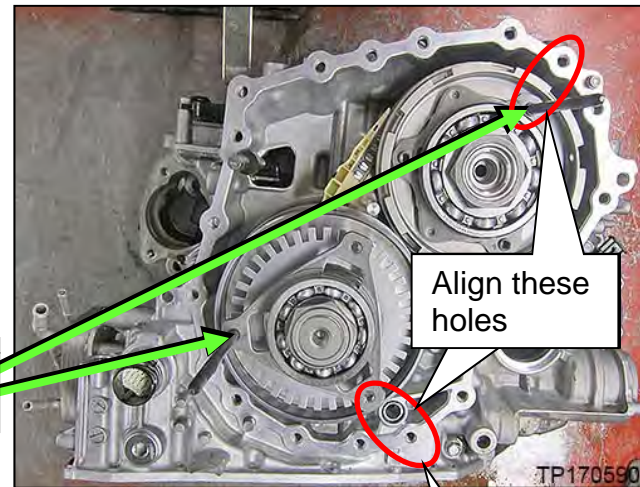

Figure 108
80. Rotate each bracket to align with holes in the case as shown in Figure 108.